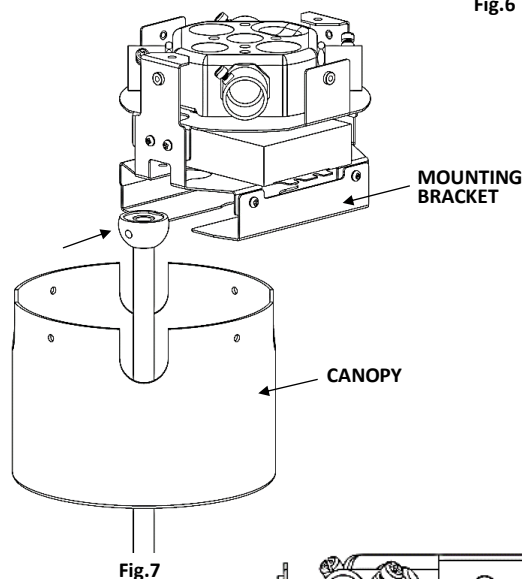

Fig.7
6. MOUNT STEM TO MOUNTING BRACKET. Fig.7